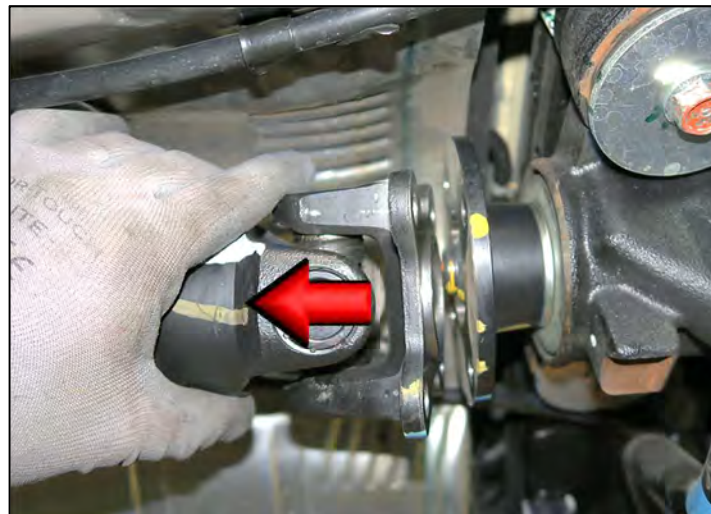

Figure 13
15. Separate the propeller shaft from the final drive (rear differential). (Figure 13)